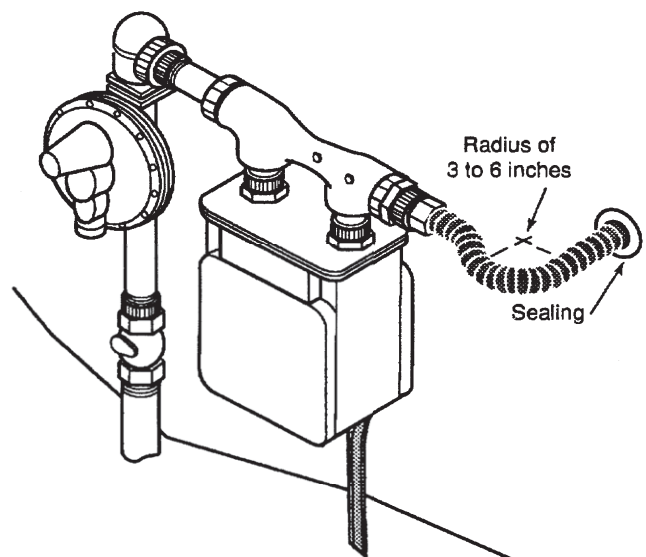

Figure: 4-25
2. Meters which are independently supported with a bracket can be directly connected outdoors with **TracPipe® CounterStrike®** Figure: 4-25. If practical, direct connections shall include a 3 to 6 inch additional length of tubing to accommodate differential settling and meter movement. No mechanical protection of the tubing is required for outdoor connections.